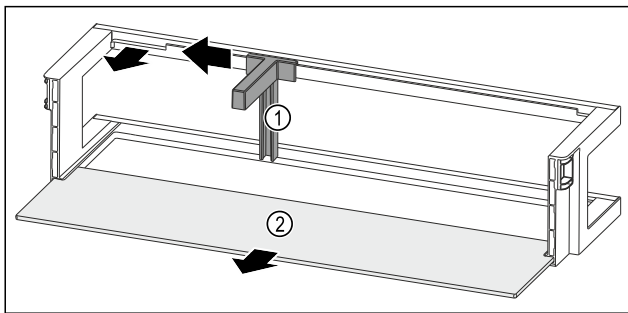

Fig. 96 Door rack with bottle holder and shelf
- Slide the bottle holder Fig. 96 (1) to the side as far as the recess.
- Remove the bottle holder Fig. 96 (1).
- Remove the shelf Fig. 96 (2).